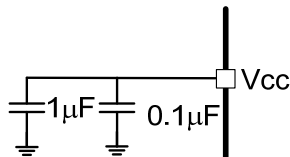

Figure 7: Vcc 3.3V decoupling
The controller is powered by the 3.3V supply rail. Once initialization of the device is complete, steady and stable supply voltage rails and a VR Enable signal (EN) are required to set the controller into an active state. A high EN signal is required to enable the PWM signals and begin the soft start sequence after the 3.3V and VIN supply rails are determined to be within the defined operating bands. The recommended decoupling for the 3.3V is shown in Figure 7.